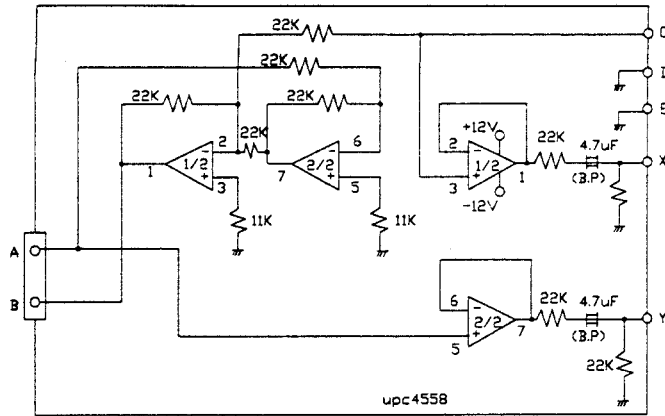
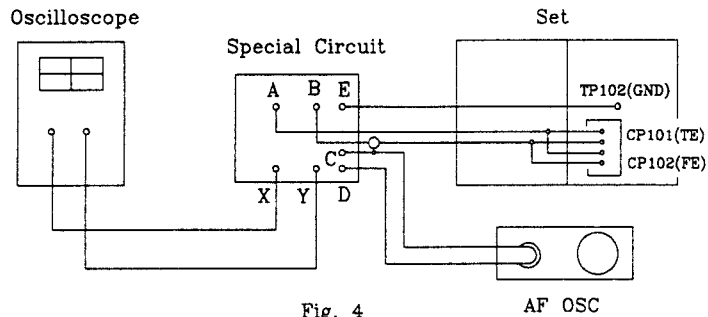

Fig. 3
Fig. 4
2. Connect oscilloscope, special circuit (Fig. 3 Page 9), AF - OSC and the set as shown Fig. 4 Page 9.